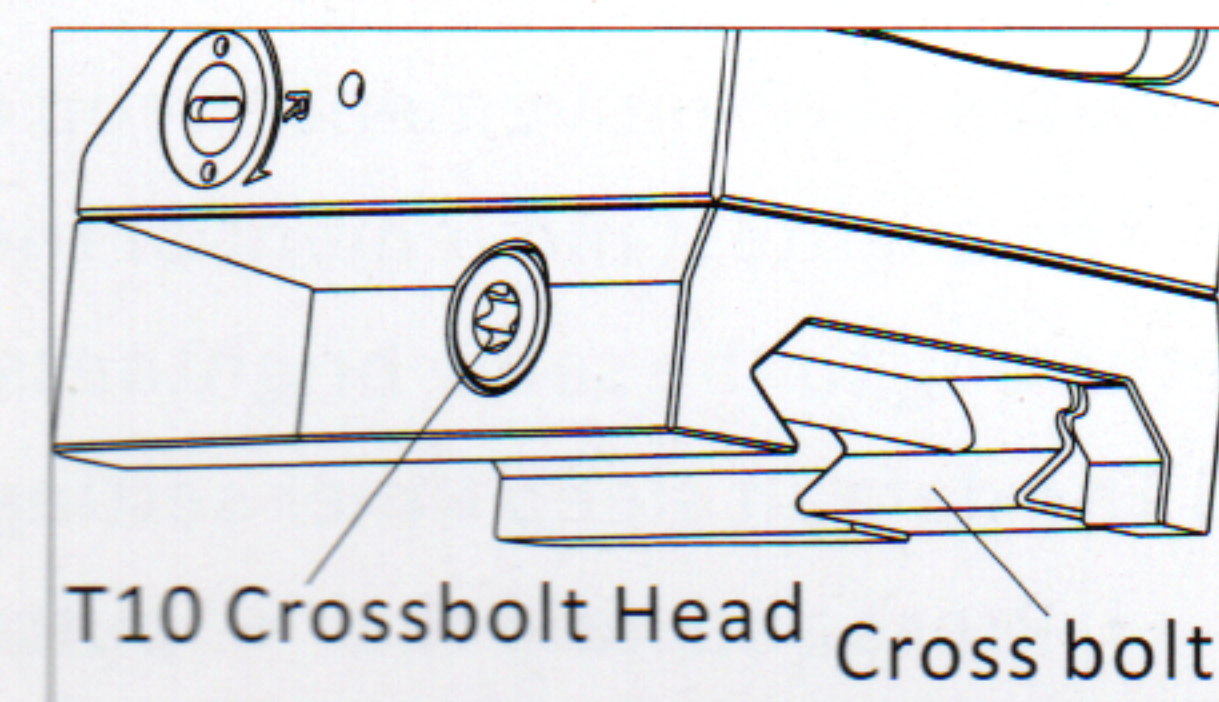

Fig 4-1
2. Using the included T10 Torx wrench loosen the cross bolt. Attach the sight onto the mounting rail in an appropriate position. Tighten the crossbolt to 20 INCH/lbs using a non-permanent (medium/blue) thread locker. (Fig4-1)